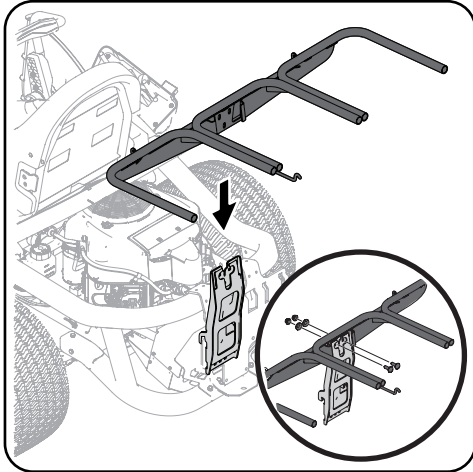

Figure 4-7
1. Install and secure the hanger assembly onto the upright support bracket using two carriage bolts (710-0276), two cup washers (736-0242) and two flange lock nuts (712-04063) from hardware pack 689-01419. Figure 4-7.